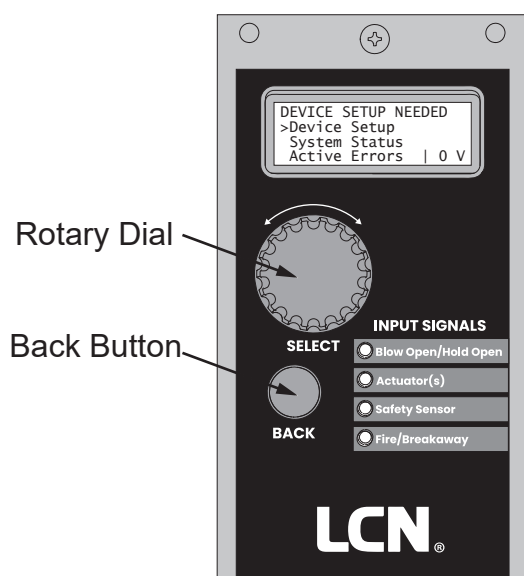

Figure 5-1 Closeup of Senior Swing IQ User Interface
- 4c Start calibration process. During initial setup or after a factory reset, device screen will indicate Device Setup Needed (see Figure 5-1). Turn rotary dial to Device Setup menu option. Push dial in to select, then follow prompts on screen to conduct calibration. The door will open slowly to full open position and pause. During closing, the door may pause, stop, and accelerate closed. During the calibration process the device will estimate the weight and size of the door. Default settings will be adjusted based upon the calibration results.